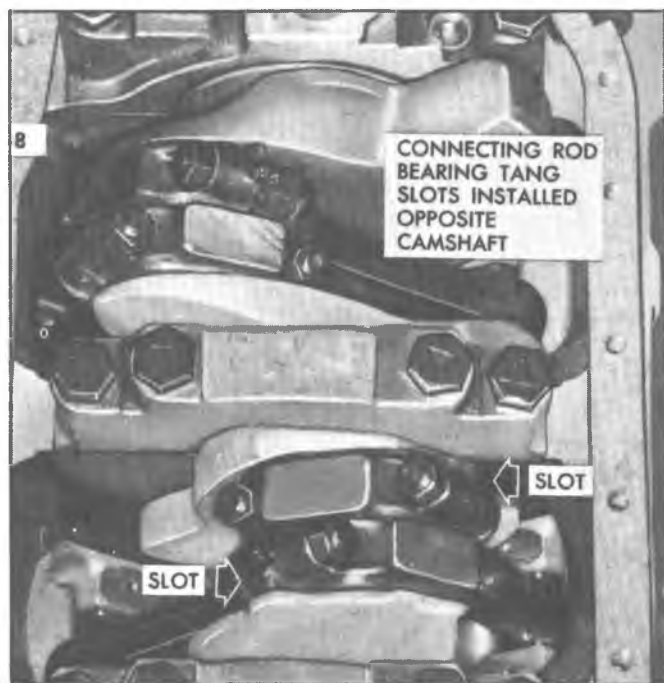
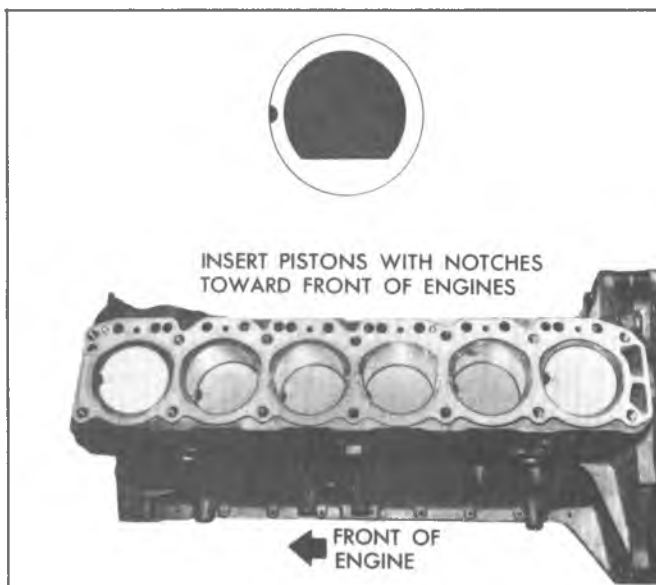

Fig. 59—Connecting Rods—Installed Position V8
Fig. 60—Pistons—Installed Position (In-Line)
4. Install each connecting rod and piston assembly in its respective bore. Install with connecting rod bearing tang slots on side opposite camshaft on V8 engines (fig. 59). In-Line engine pistons must have piston notch facing front of engine (fig. 60). Use